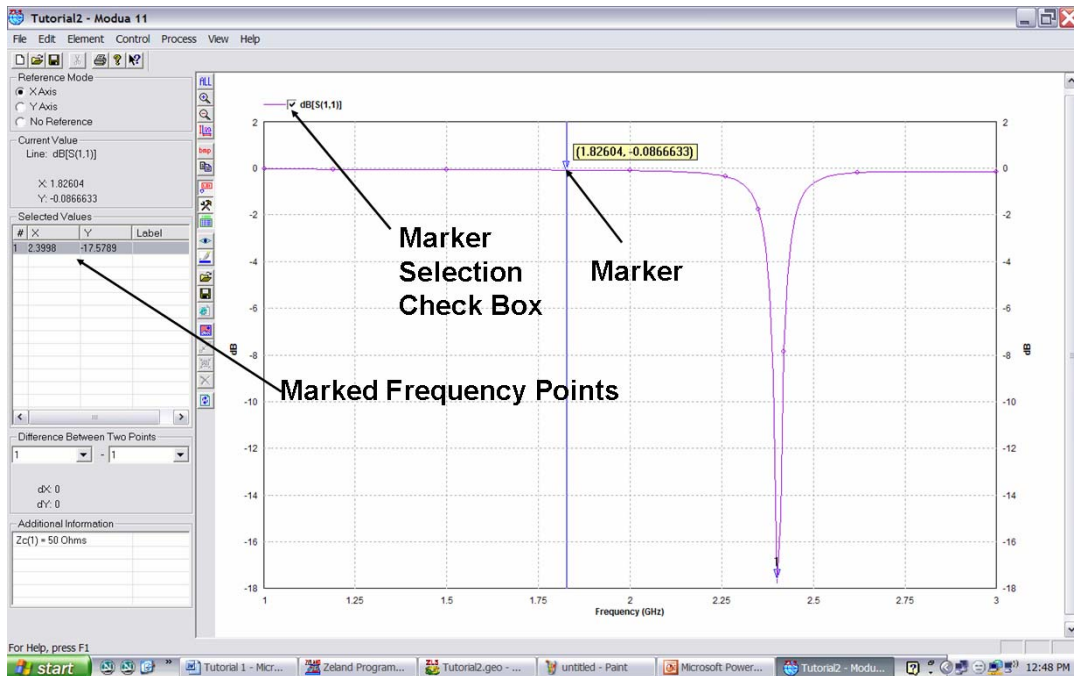

Figure 23.
- 26) Press OK and the structure will be simulated. The simulation progress window shows the progress of the simulation. It will only take a couple of seconds for the simulation to finish. After the simulation is completed, IE3D automatically invoked MODUA and shows the S parameters of the simulated structure. MODUA is a separate program that comes with the IE3D package. This program is used to post process the S-parameters of the simulated structure. Figure 23 shows the result of the simulation. You can check the marker selection check box and a marker appears on the  $S_{11}$  trace. Move the marker to the null in  $S_{11}$  trace and determine the exact frequency at which  $S_{11}$  is minimized. As seen from Figure 23, this frequency is 2.4 GHz. The antenna is well matched to 50 Ohms at 2.4 GHz.